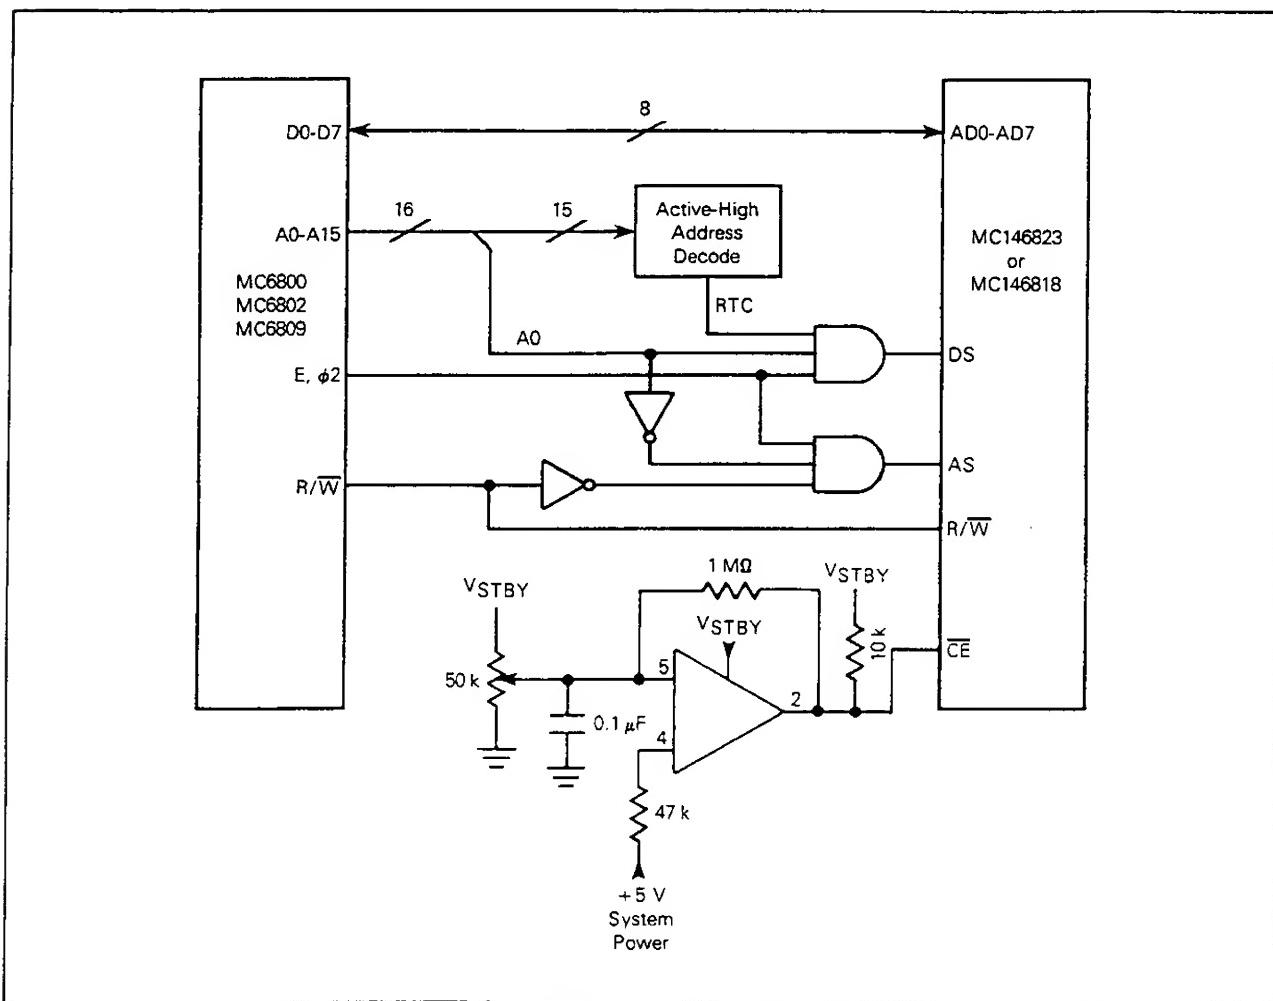

FIGURE 1 — MC146818/MC146823 and Motorola MPU Non-Multiplexed Bus Interface Schematic Diagram
Another method, for allowing a non-multiplexed bus MPU to read or write multiplexed bus peripherals, is to consider the multiplexed bus as a two-register device. One register could be the address latch and the other could be the data register. By connecting the non-multiplexed bus to the multiplexed bus, as shown in Figure 1, the address strobe (AS) is generated by any MPU write to an even address (A0 is low). Although AS causes the state of the multiplexed pins to be captured in the address latch, no data is transferred until the data strobe (DS, RD, or WR) is generated. The data strobe is not generated until a specific decoded, odd address occurs; i.e., A0 is high. Thus, a valid access can only be made by first writing to the location (\$00-\$3F) of the byte to be accessed at an even address, and then by either reading from or writing to the decoded odd address. The software subroutine required to generate the address strobe (AS) and data strobe (DS) signals for the interface shown in Figure 1 is listed in Figure 2. The location to be accessed is contained in accumulator A and data is transferred via accumulator B. The following example clears register A (location \$0A) and then reads the data at location \$25.
The schematic diagram shown in Figure 1 provides an interface between Motorola devices: MC6800/MC6802/MC6809 MPU interfaced with an MC146818 Real Time Clock or MC146823 CMOS Parallel Interface. Since both the MC146818 and the MC146823 are implemented with the Motorola MOTEL circuit (for MOTorola and IntEL bus compatibility), they can be interfaced with either of the two most common multiplexed bus structures. The hardware required for interfacing a competitor's non-multiplexed MPU with either the MC146818 or MC146823 is shown in Figure 3.
down is different for each device. Also, on both devices \overline{CE} is used to isolate the device from the bus except as follows: (1) when AS is high on the MC146823 and (2) on the MC146818 \overline{CE} must be valid before the falling edge of AS and it must remain valid until the training edge of DS. For these reasons, the comparator circuit shown in Figures 1 and 3, is used to provide CE. One input to the comparator is connected to the +5 V system power source. The other comparator input is connected to a reference voltage (assume +4 V). The battery backup voltage, used to provide the reference source, should approximate the system +5 V supply. When the system voltage falls below the reference level, the comparator toggles and deselects the MC146818 (\overline{CE} goes high). This isolates the RTC from the bus. The comparator toggling action precludes spurious writes to the MC146818 RAM or other registers during the time between system power loss and trigger output. The comparator configuration shown provides some hysteresis. This ensures that there is no input voltage which would cause a bouncing effect at the \overline{CE} pin.